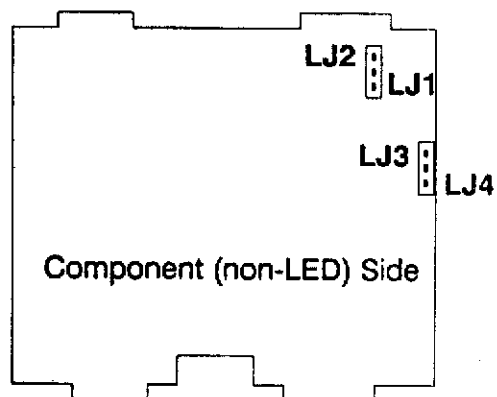

Figure 5-4 Front Panel/Display Board - Link Jumpers
* On the Front Panel PCB, fit links LJ2 and LJ3 for °C or LJ1 and LJ3 for °F (see Figure 5-4).